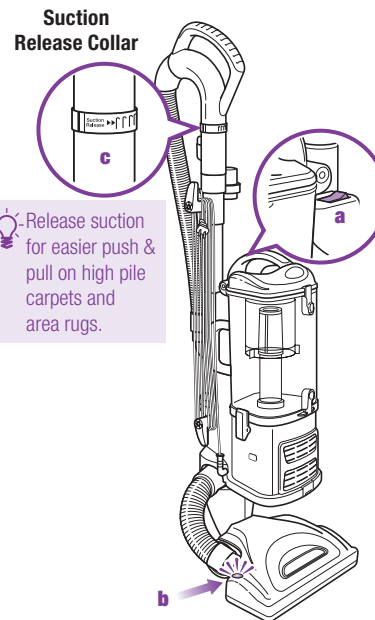

Fig. 13
- 3 Press the On/Off switch (a) to the "I" position to vacuum bare floors (straight suction only) or to the "II" position to engage the motorized floor brush (for vacuuming carpets and rugs). (Fig. 13)
IMPORTANT: The motorized brush indicator light (b) will illuminate green when motorized floor brush is on, or red if there is a blockage or jam. (Fig. 13) This feature is designed to protect your Lifetime Belt that powers your motorized floor brush. See "Checking for Blockages" section on page 16.
- 5 **Due to the huge suction power of this vacuum, it may become necessary at times to adjust the suction release (c) on the handle. (Fig. 13) If the vacuum seems difficult to push or pull or if it is lifting up area rugs, adjust the suction release by rotating the collar 90° counter-clockwise to open the valve. Rotate the collar clockwise to close the valve when you need high suction and for vacuuming floors.**